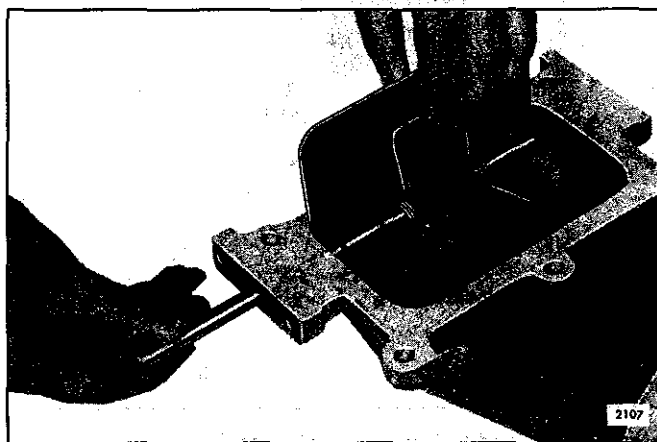

Fig. 2 – Installing Air Shut-Off Valve Spring and Valve
1. Place the valve(s) and spring in position in the housing (Fig. 2) and slip the shaft in place. The shaft must extend .700" from the side of the housing where the shutdown latch is assembled.